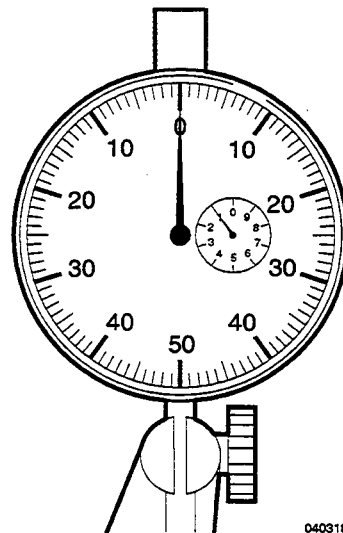
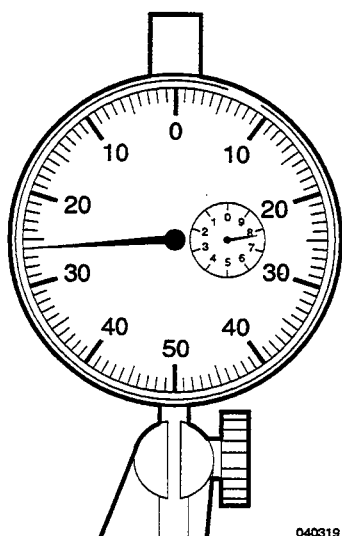

Fig.6 Dial gauge reading (Example)
Fig.7 Dial gauge reading (Example)
11. Zero the gauge, and note the position of the small pointer (see fig.6).
In the example shown in fig.7 the gauge reading is now 7,74 mm. Subtract from this figure the example reading previously noted 1,00 (see fig.6), and the result is 6,74 mm.